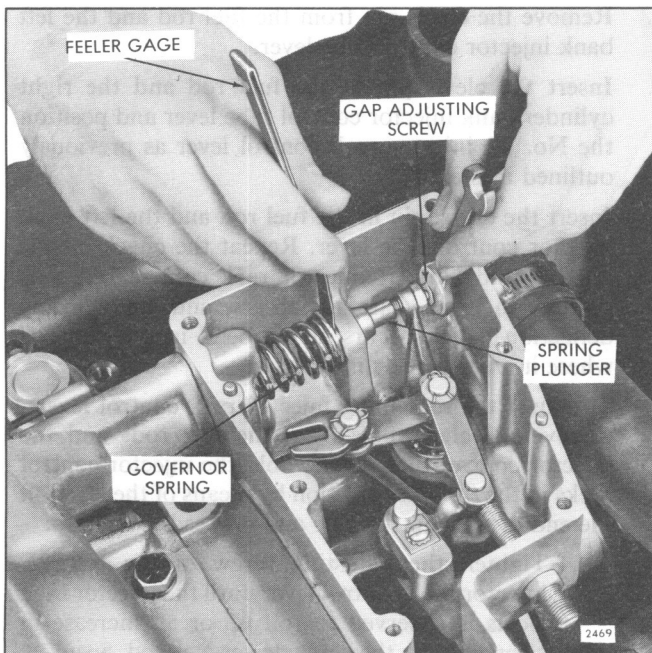

Fig. 1 – Adjusting Governor Gap
2. Position the Belleville spring retainer to provide approximately .060" clearance between the Belleville washers and the retainer when the engine is not running (Fig. 1).
5. Insert a .006" feeler gage between the spring plunger and the plunger guide (Fig. 1). If required, loosen the locknut and turn the adjusting screw until a slight drag is noted on the feeler gage.